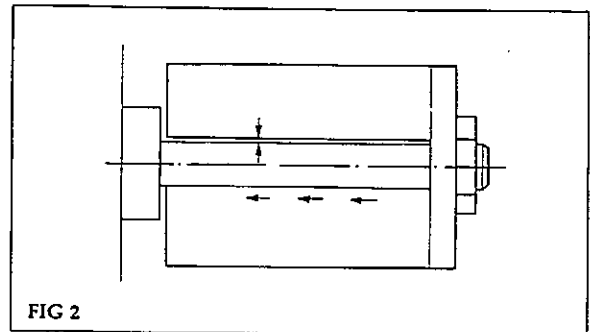

FIG 2
- Fig 2 Overall dimensions
- Fig 2 Hand controls and adjustments
- Fig 2 Spindle unit bearing assembly
- Fig 2 First and second bottom heads
The conventional method of mounting a cutterblock is to lock a plain bore block on to a plain ground spindle with a locknut. The tolerances in each component give a possible 0.05mm (0.002") clearance in the bore and thus eccentric running (see Fig 2).